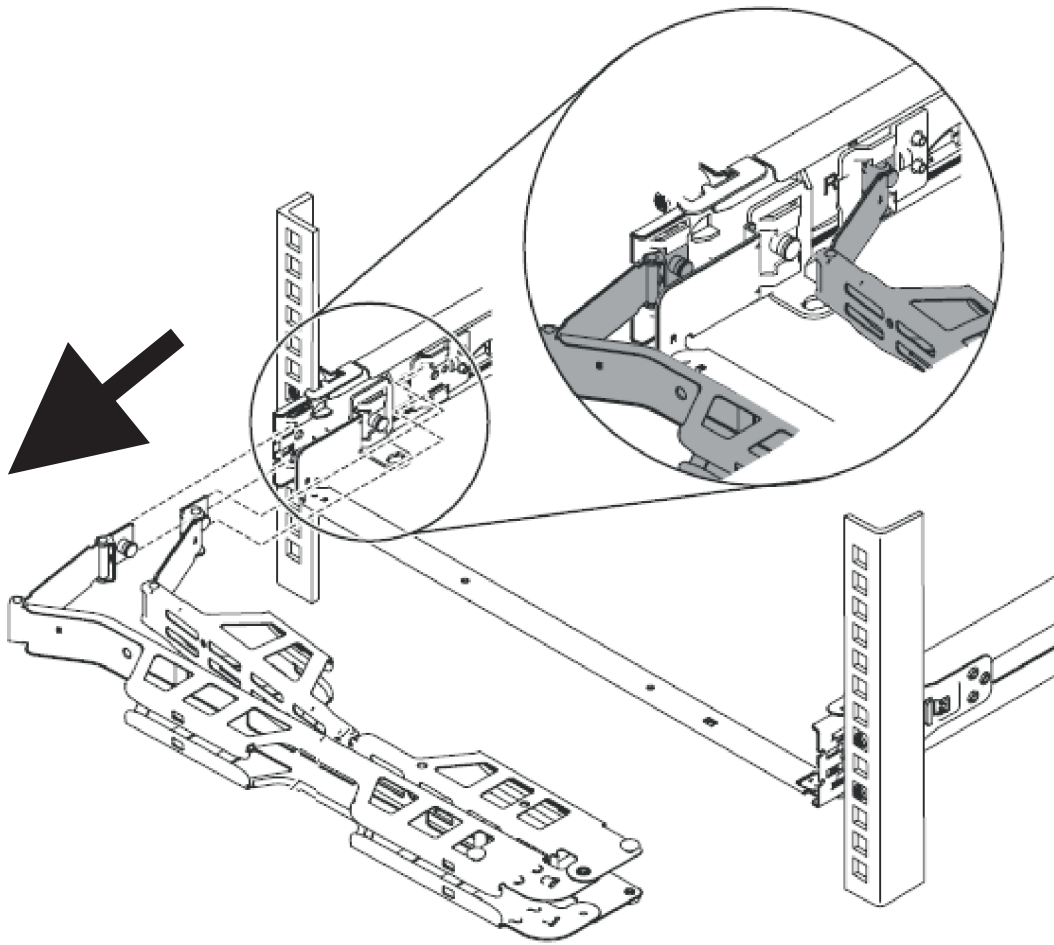

Figure 12. Removing the cable-management arm
- a. Remove the cable-management arm by pulling out both cable-management-arm pins while sliding the tabs out of the mounting location, as shown in Figure 12 on page 29.